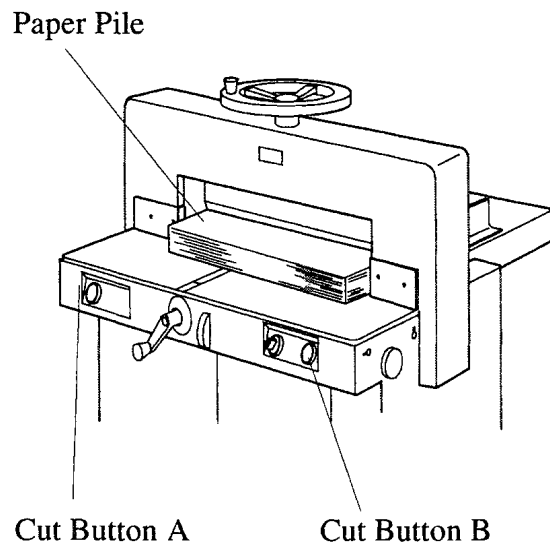

Fig. 2-3
- Depress cut buttons A and B (Fig. 2-3) simultaneously.